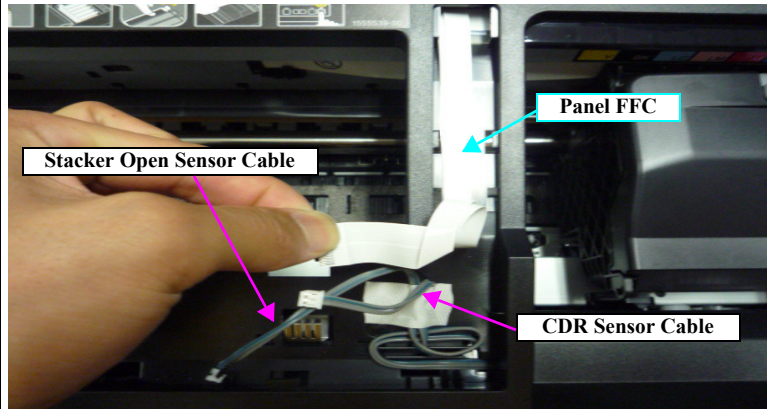

Figure 8-11. Reassemble the Panel Unit
- Routing the CDR Sensor Cable and Stacker Open Sensor Cable shown in *Figure 8-11*.